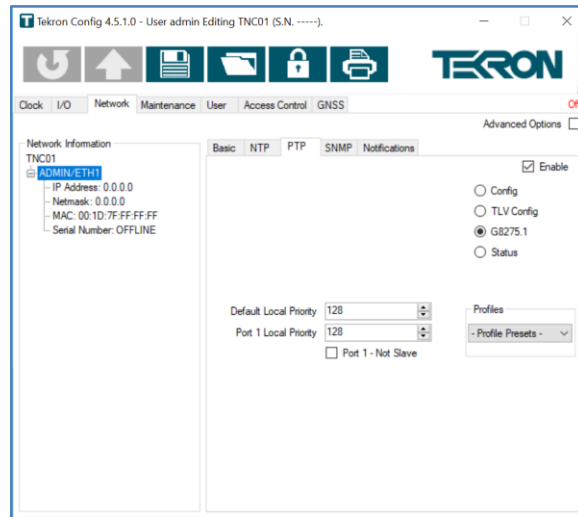

Figure 46 - "G8275.1" settings
**8275.1” radio button:** This section of Tekron’s Configuration Software contains the G.8275.1 (Telecom) alternate BMCA configurable attributes (Refer to Figure 46). It only appears if the selected Ethernet port has been configured as a G.8275.1 (Telecom) Clock.